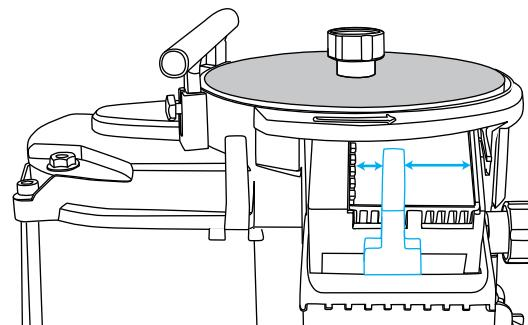

Fig. 6-4
**Tools under ½" wide can be sharpened on the left side of Port, while tools wider than ½" should be sharpened on the right side of the Port. See fig. 6-4.** This is due to the varying Wheel speed at different surface points. The center of the Wheel has a slower surface speed and is less likely to overheat a smaller tool.